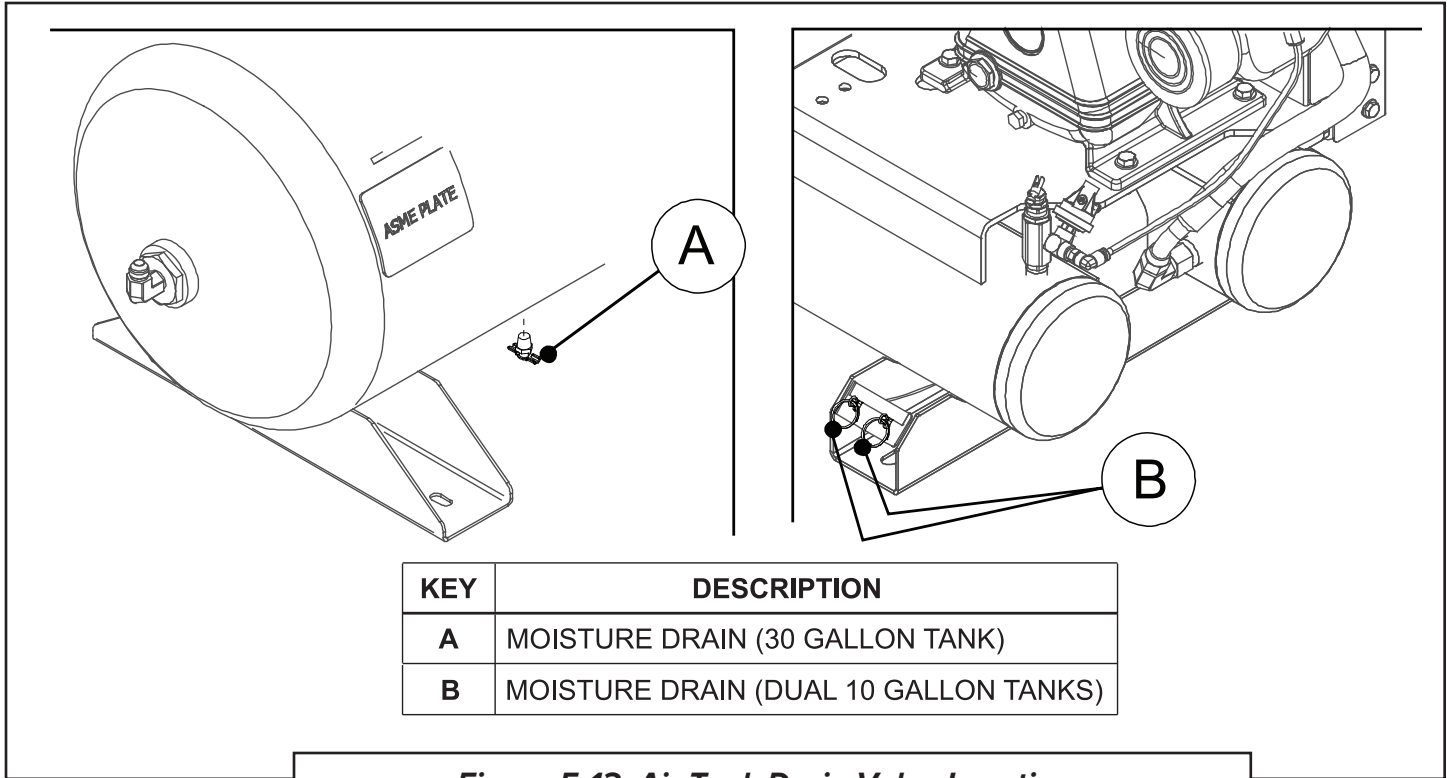

Figure 5-12: Air Tank Drain Valve Locations
1. Locate the generator auto-tensioner. (Refer to **Figure 5-12 [B]**.) Using a socket wrench, apply pressure downward to loosen the belt tension, as shown.
The air tank reservoir may accumulate moisture inside due to the compression and expansion of air. (See **Figure 5-12**.) The air tank should be checked daily and allowed to drain by opening the drain valve on the air tank. For areas of high ambient moisture content the valve may need to be checked more than once per day. This valve may be accessed at any time, including while in operation.
- De-pressurize the air tank then open the drain valve on the air tank and allow any condensation to drain out. Close the drain valve when done. (The drain valve is normally located near the bottom of the air tank. (Refer to **Figure 5-12.**)